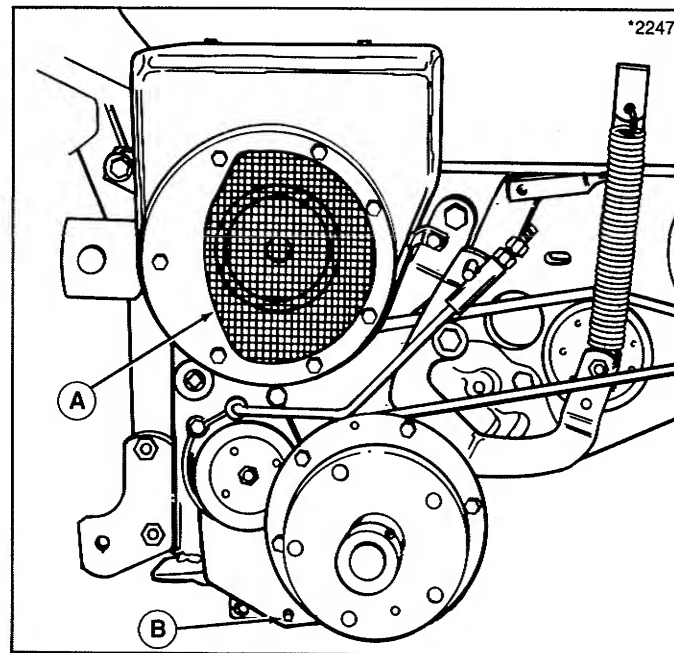

Figure 13. Hydrostatic Transmission
2. Remove hydrostatic transmission drain plug (B, figure 13) from lower right hand side. Remove dirt from around the fill cap (C, figure 12) and loosen cap to permit air to enter transmission.